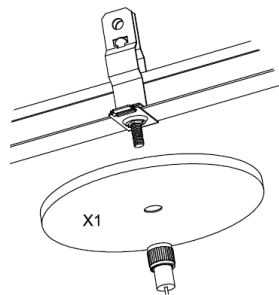

Fig. 5.5
6. Fix the canopy of the suspension kit to the T-Bar mounting bracket. (Fig. 5.5)